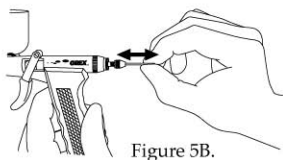

Figure 5B.
3. Hold the needle and move it a little in and out of your airbrush repeatedly (pumping) to clean the internal packing. Refer to Figures 5B on page 10.